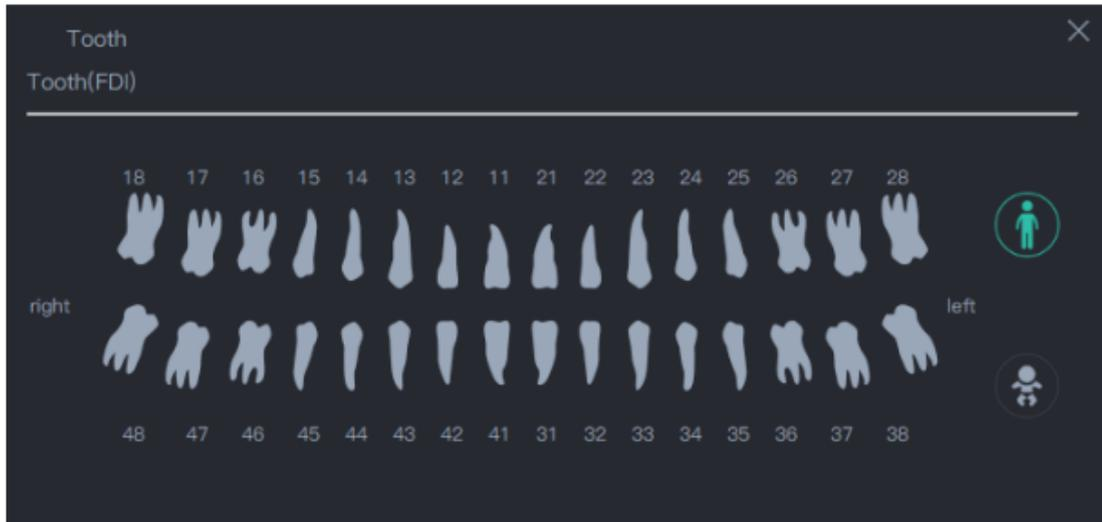

Figure 23
(1) Date filtering. Set the start time of the date and filter the image creation time. The filtered images are displayed in the image list, as box 8.
(2) Image source filtering. There are 5 methods: All Images, i-Scan, Sensor, TWAIN, and File Import. Selecting “All Images” means displaying all images under the condition of the image source, and the other four are image acquisition methods.
(3) Image analysis filtering. All Images, No Analysis, Excellent, Acceptable, Unacceptable, respectively indicate that all images are displayed under the conditions of image analysis, the image is not analyzed, very good, acceptable, and unacceptable.
(4) Tooth profile filtering. All Images, Toothless, Tooth profile, respectively indicate that all images are displayed under the conditions of tooth profile filtering, no tooth allocation, and tooth allocation. Select “Tooth profile” and Figure 23 will be displayed. Click the tooth profile to filter the image tooth profile. Click on an image of the teeth and it will be displayed in the image list.